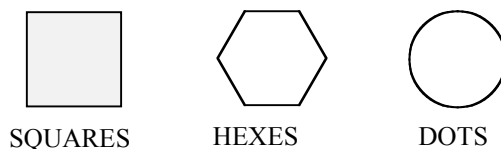

Figure 12 A magnified view of the patterns inside the various apertures.
5.2 In this activity you will pass the laser beam through the apertures SQUARES, HEXES and DOTS found under PATTERNS on the SINGLE SLIT SET. These apertures have the shape of a square (4 sides), hexagon (6 sides) and circle respectively and are uniformly filled with dark dots. See Figure 12 for a magnified view of these apertures and the patterns.